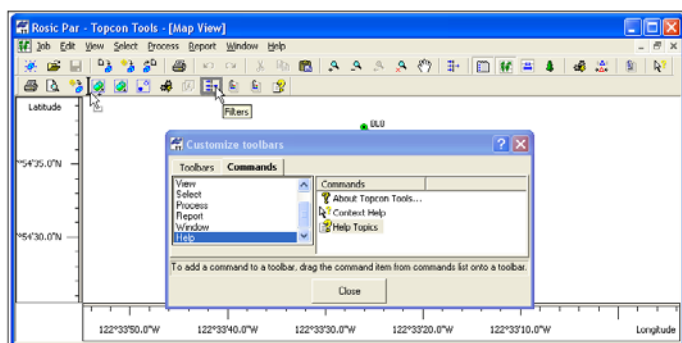

Figure 1-23. Editing Toolbar Button Location
- When all desired commands have been added to the toolbar, rearrange the toolbar buttons as needed: click and drag the button to a location on the toolbar (Figure 1-23). When editing the toolbar, the *Customize toolbars* dialog box must be open.